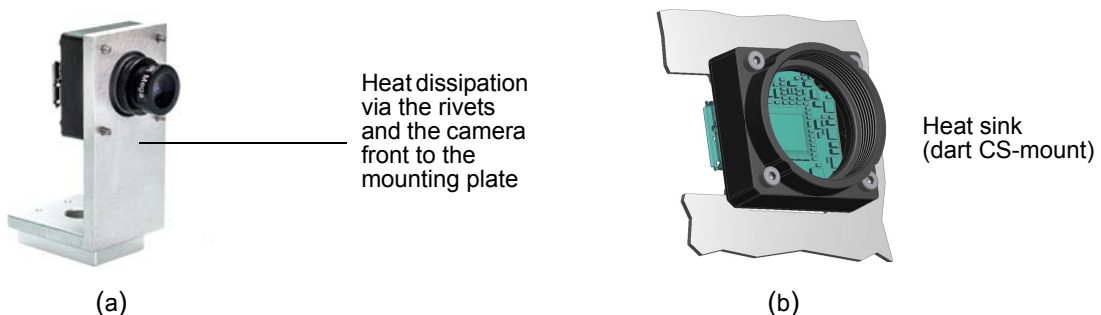

Fig. 12: Heat Sink Examples
- Figure 12 (a): The camera front touches a mounting plate. Heat dissipates via the rivets, the camera front and the mounting plate.
- Figure 12 (b): The camera rear side touches a mounting plate. Heat dissipates via the rivets and the mounting plate.